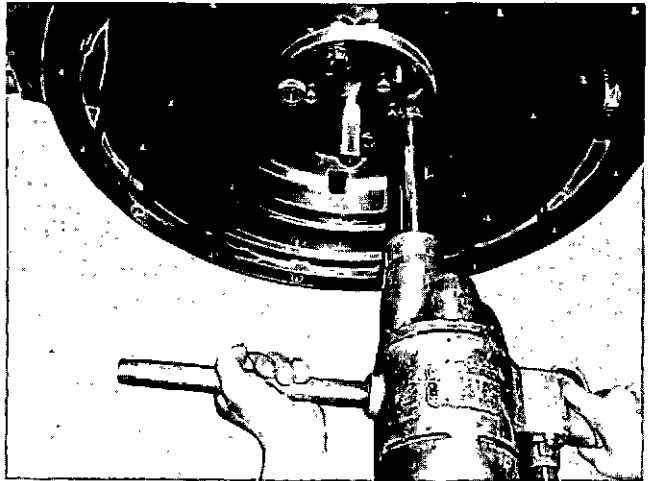

Fig. 14-1-93, V414179. Reaming flywheel and crankshaft dowel holes
3. If old dowels have been removed, ream dowel holes in flywheel and flange to nearest oversize and drive in oversize dowels. Use ST-497 Drill and Ream Plate and desired bushing for this purpose. Fig. 14-1-93.